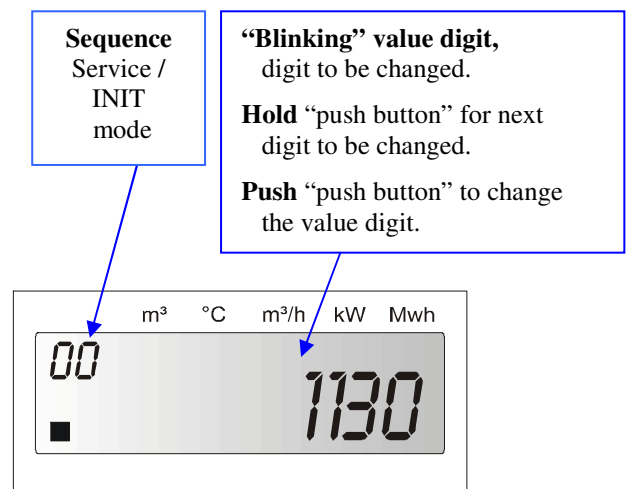

Fig. 3.5, Sequence service or INIT mode
**To change digit “to be changed”,** hold “Push button” until the next value digit starts to blink, see fig 3.5.